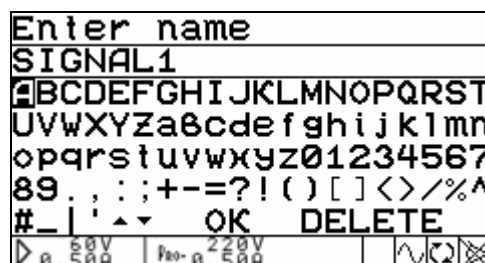

Fig. 4.26 Signal name entry window
- If “Store signal” had been selected in opening submenu of “Signal library”, the screen with alphanumeric keyboard (pictured on Fig. 4.26) is displayed.